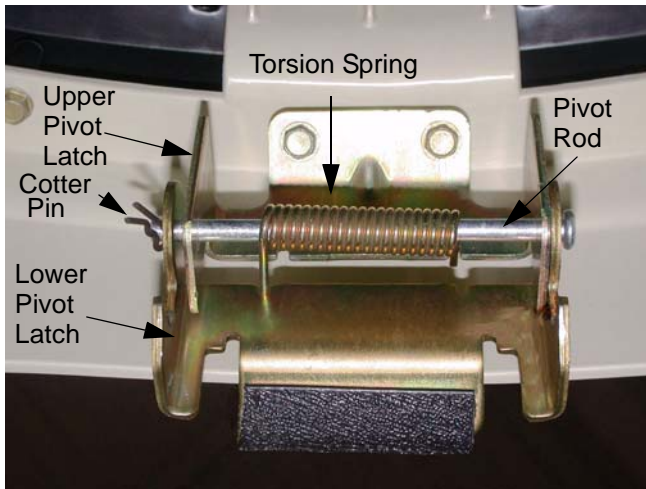

Figure 2.7
- 2.7. A torsion spring keeps the latch secure until the lower pivot latch is intentionally pulled up, to open the hood. See Figure 2.7.